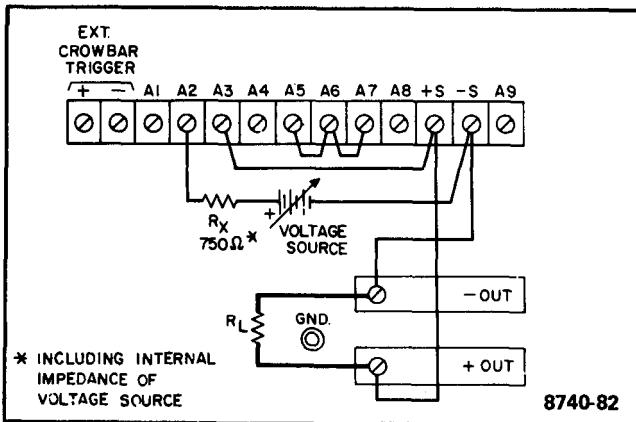

Figure 3-5. Voltage Programming of Output Voltage (Unity Gain)
**3-41 Constant Voltage Output, Voltage Input (Unity Gain).** The rear panel connections shown in Figure 3-5 allow the output voltage to be varied by using an external voltage source to program the supply. In this mode, the output voltage varies in a 1 to 1 ratio with the programming voltage. The load on the programming voltage source is less than 20 microamperes. Impedance matching resistor  $R_x$  is required to maintain the temperature coefficient and stability specifications of the supply. To adjust the output voltage to exactly zero with a zero programming voltage, follow the same instructions as are referred to in paragraph 3-40. (See Figures 6-7 and 6-8.)